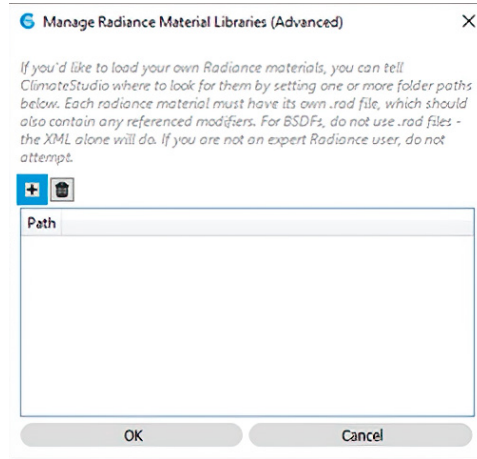

Figure 9 Click on "+", marked with blue and select the folder containing your custom materials library
Step 6 Click the "+" sign and select the previously created folder containing the MicroShade® BSDFs or .cal file. See figure 9.